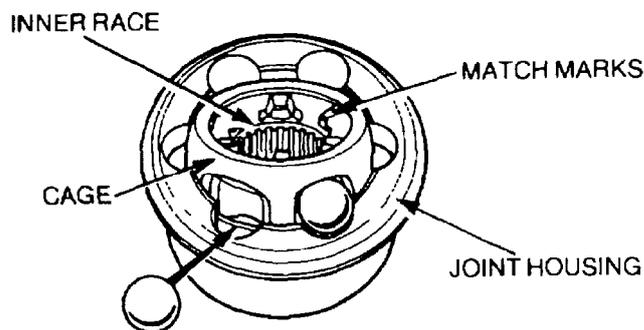

**Figure 260 Removing the Stub Axle**
- c. Remove the bolts and locking plate retaining the hub stub axle to the swivel housing (Figure 260) and remove the stub axle.